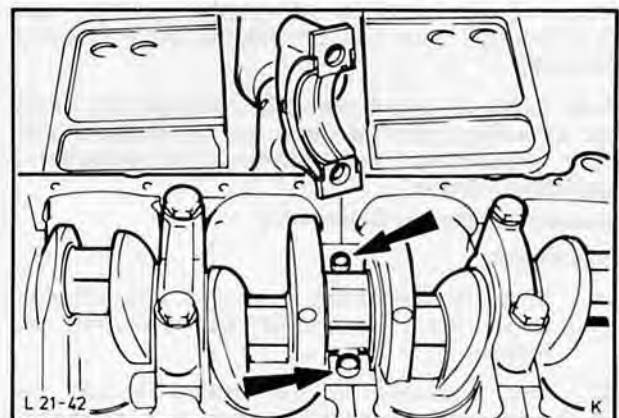

Fig. 99. Centre main bearing bushes
33. Tighten bearing cap bolts uniformly to torque specified in Technical Data. On this engine two guide bushes each are provided for securing rear and centre main bearing caps, Fig. 99.